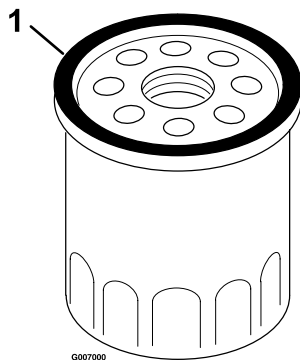

Figure 30
7. Use your finger to coat the gasket on the new filter with clean Exmark 4-Cycle Premium Engine oil (see Figure 30).